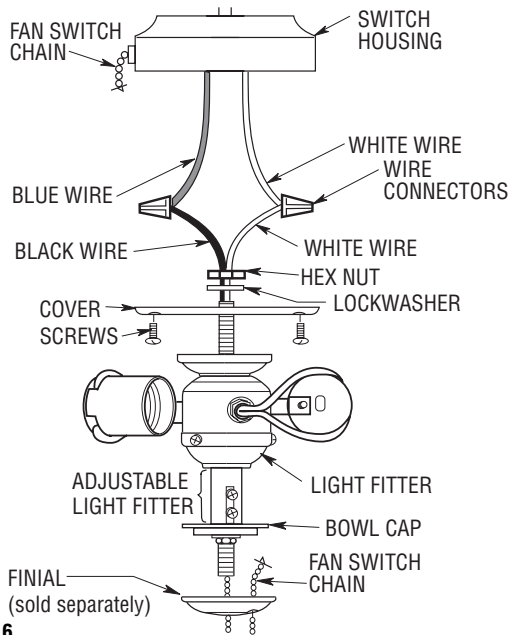

Figure 6
2. Remove the cover from switch housing below ceiling fan (Figure 6).
5. Connect the white wire from the ceiling fan to the white wire of the light fitter. Connect the blue wire from the ceiling fan to the black wire of the light fitter. Use listed wire connectors (previously removed in Step 3) to make connections. (Figures 6 and 7.)